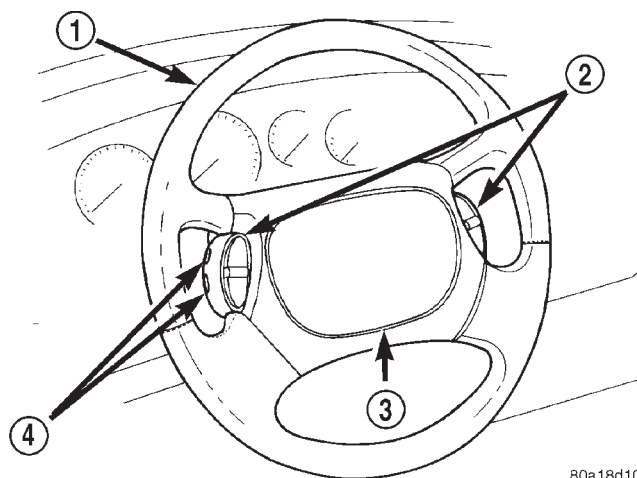

Fig. 10 Speed Control Switches
(9) Remove the speed control switches (Fig. 10) from the steering wheel. The speed control switches are mounted to the steering wheel using 2 mounting screws in the side of each speed control switch (Fig. 10).